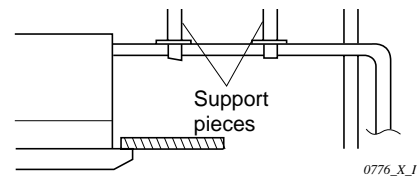

Fig. 3-31
- Do not apply force to the piping on the unit side when connecting the drain pipe. The pipe should not be allowed to hang unsupported from its connection to the unit. Fasten the pipe to a wall, frame, or other support as close to the unit as possible. (Fig. 3-31)